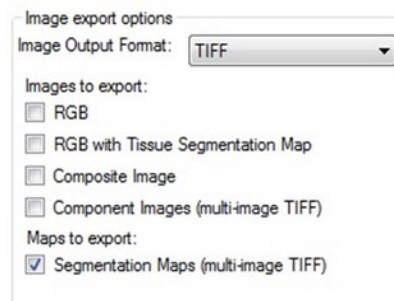

Figure 4.21. Maps to export Segmentation Maps.
4. In the Export step, check the Segmentation Maps (multi-image TIFF). (See Figure 4.21.)